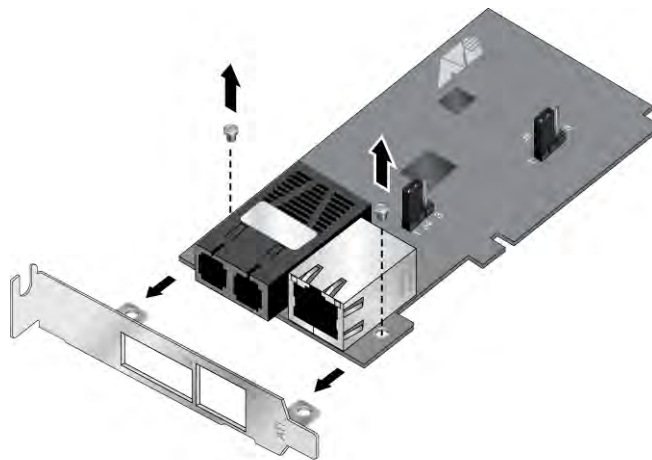

Figure 6. Removing the Low-Profile Bracket
1. Remove the screws that attach the low-profile bracket to the adapter. See Figure 6.